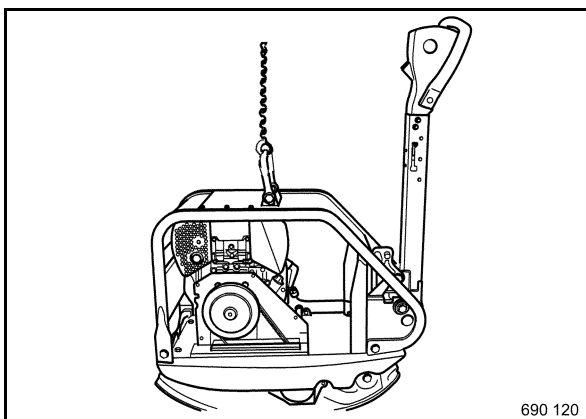

Fig. 33
- Always attach the lifting gear (rope) to the lifting eye to load the vibratory plate on a transport vehicle (Fig. 33).